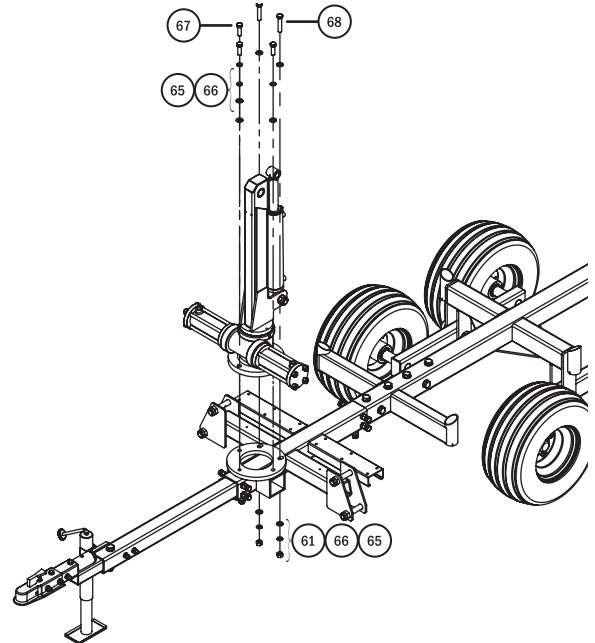

Fig. 8
Remove the bolts and nuts used to mount the Vertical Boom Assembly (40) to the Stabilizer Frame Base (41). As shown in Fig. 8, and with the help of a second person or using a lifting device, place the Vertical Boom Assembly (40) onto the Stabilizer Frame Base. Align the holes and reinstall the Bolts (67 & 68), Flat Washers (66), Lock Washers (66), and Nuts (61), then tighten the fasteners between 120 and 135 ft-lbs.